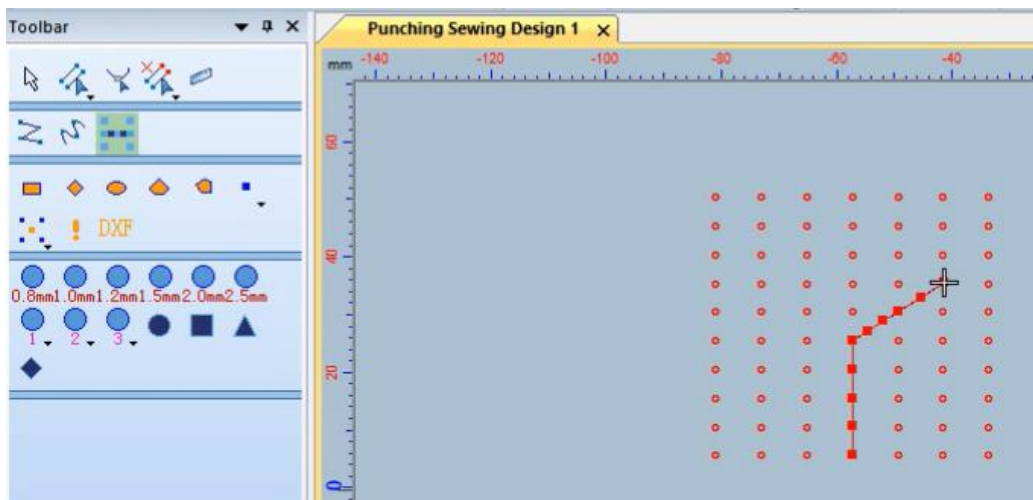

图 3 Picture3
Step 4: Use the left toolbar to click on the left and right points, and a stitch point will be generated in the center. From the second row, hold down the "Shift" tool and click on the left and right points, and a stitch point will also be generated in the center. (Straight sutures as shown in Figure 1). Move the mouse to the position to be offset while holding down "Ctrl" and the left mouse button to set the offset. After setting, click OK (as shown in Figure 2 to offset the suture). Press the "Enter" key to confirm (Figure 3).